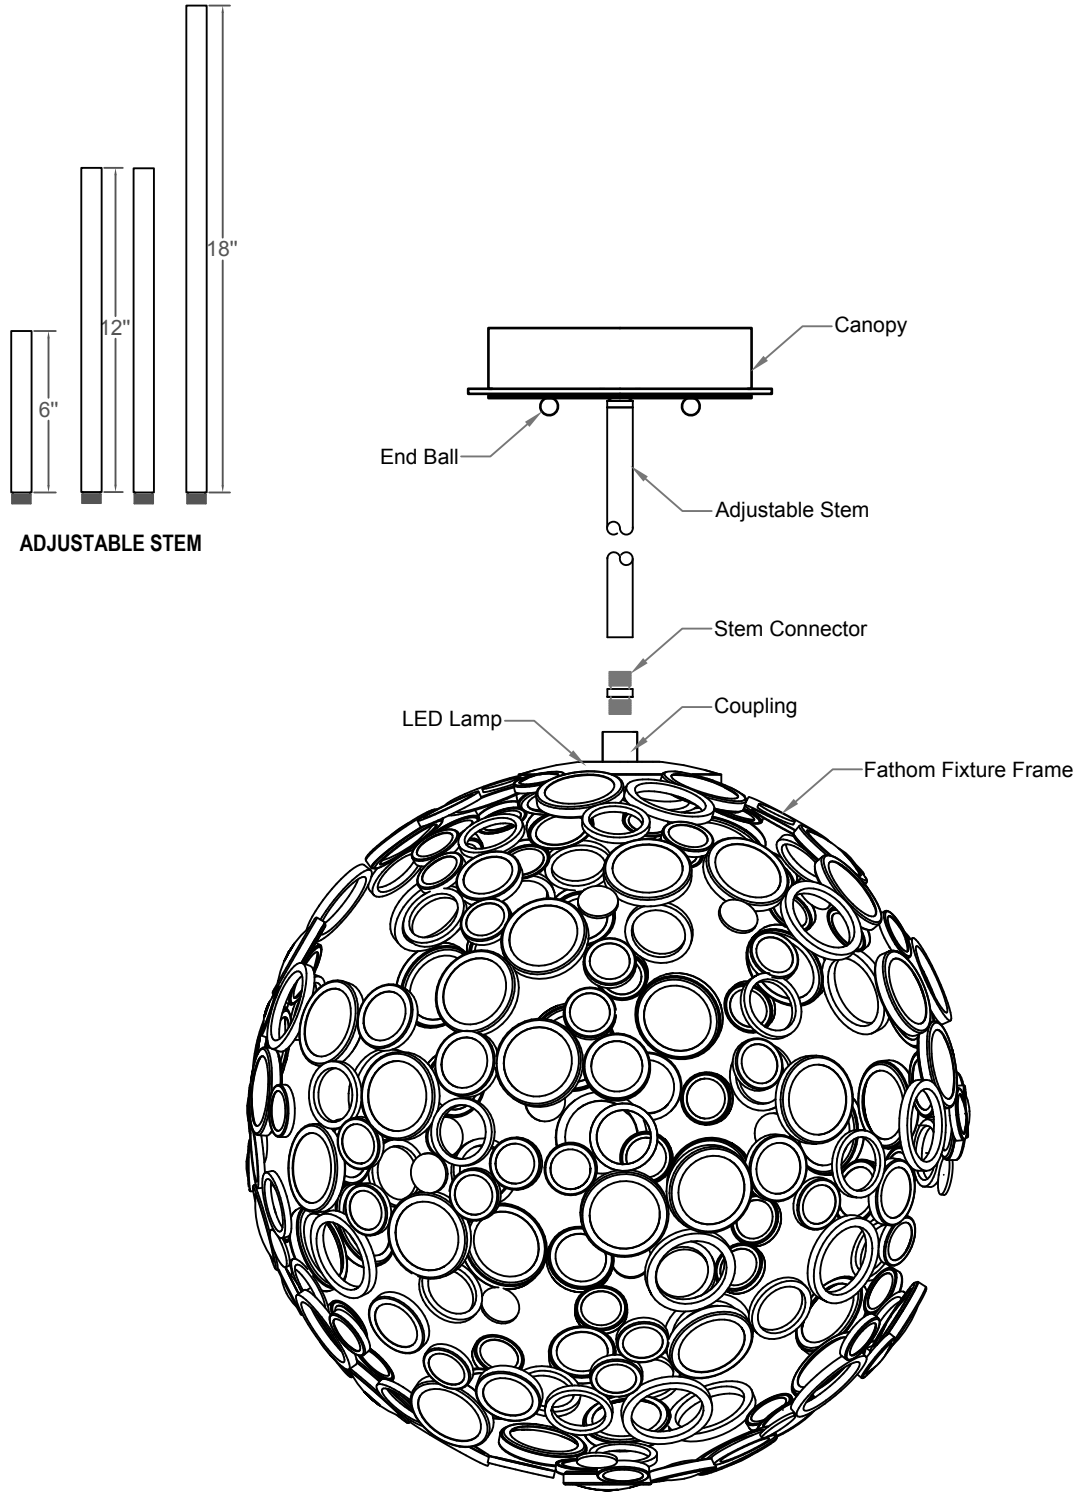

FIGURE-3
- This fixture is supplied with with a 4-pcs. stem. There is one 6" section, two 12" section and one 18" section. This feature allows the fixture to be mounted with a stem up to 48" in length in 6" increments (See Figure-3).